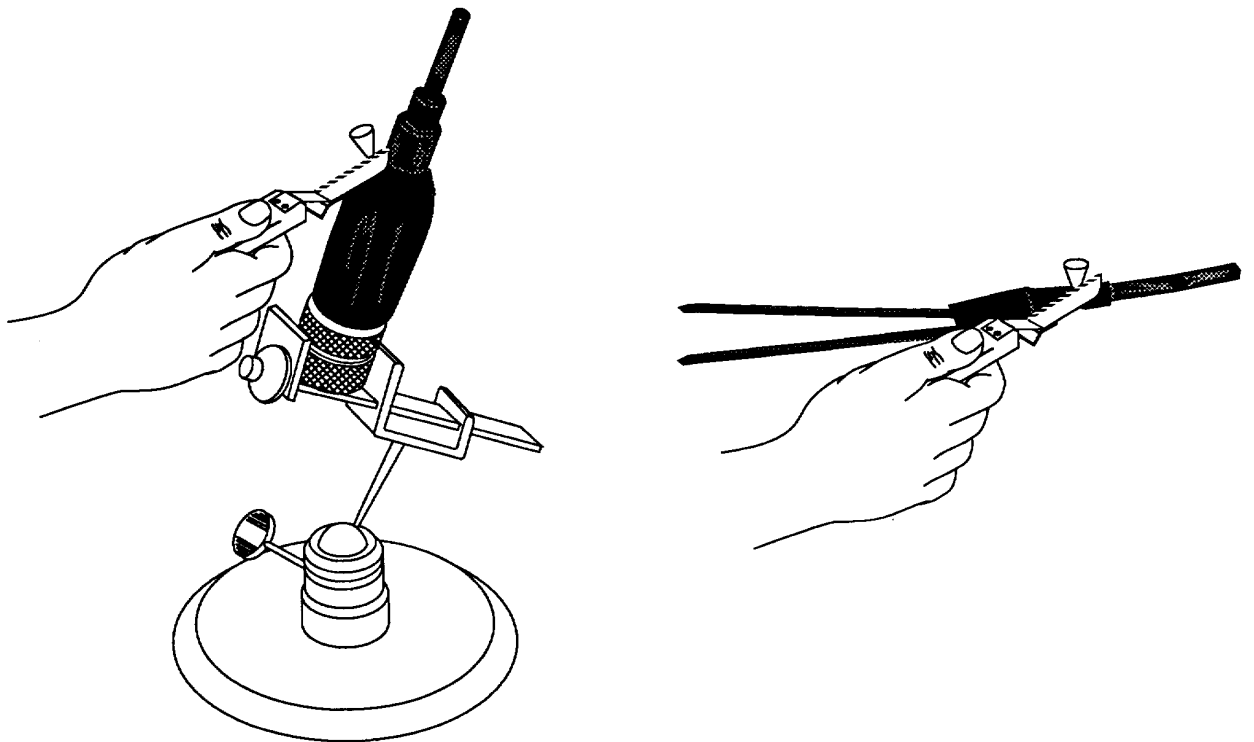

Figure 7. Cutting Riser
e. After compound is completely cure, cut riser flush with surface of component (Figure 7)